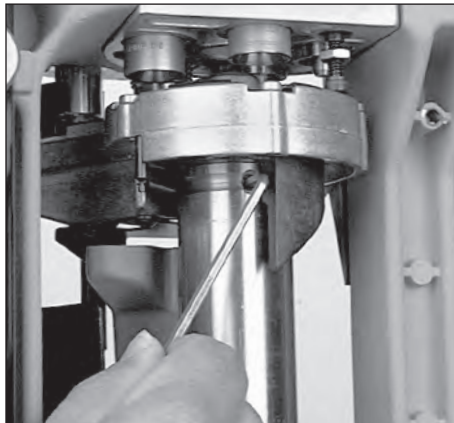

FIG 173
5. Snug the shellplate set screw **FIG 173**.